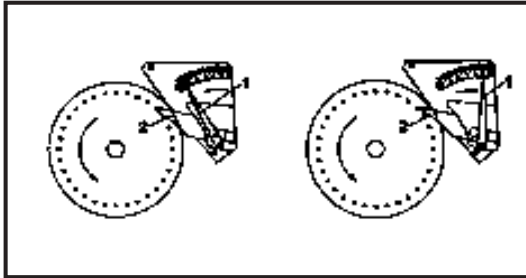

Fig. 14
9) Adjust the selector (seed scraper adjustment lever) as described in Fig. 14.